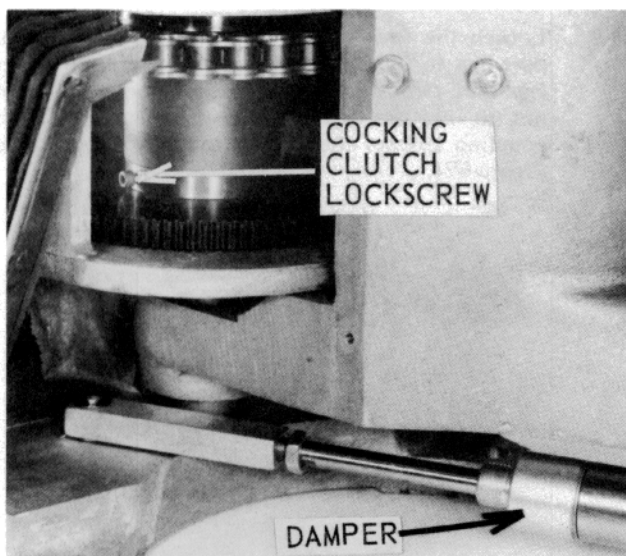

Figure 60 — Cocking Clutch Lock Screw and Damper
- 4.3 Tighten the cocking clutch lock screw. Reconnect the damper to base (see Figure 60).